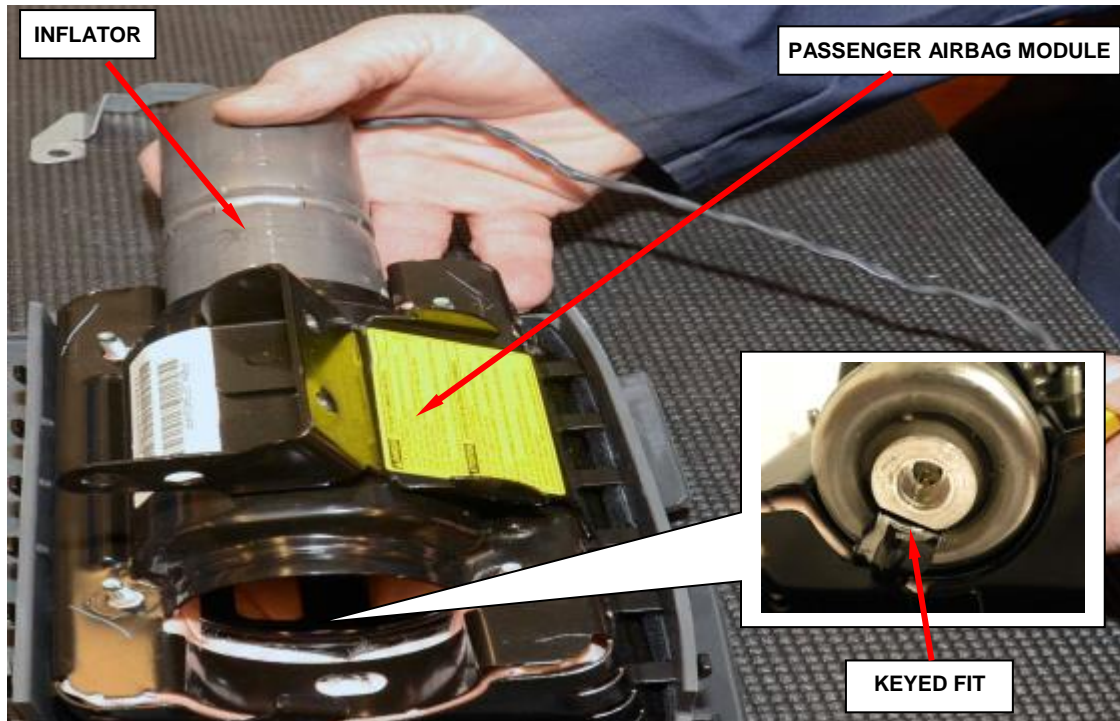

Figure 27 – Passenger Airbag Inflator to Housing
- f. Slide the inflator out of the passenger airbag module (Figure 27).
NOTE: The inflator’s key **MUST** line up with the housing’s key (Figure 27).
m. Slide the **new** inflator into the passenger airbag module (Figure 27).
NOTE: The inflator is keyed to fit into the housing (Figure 27).